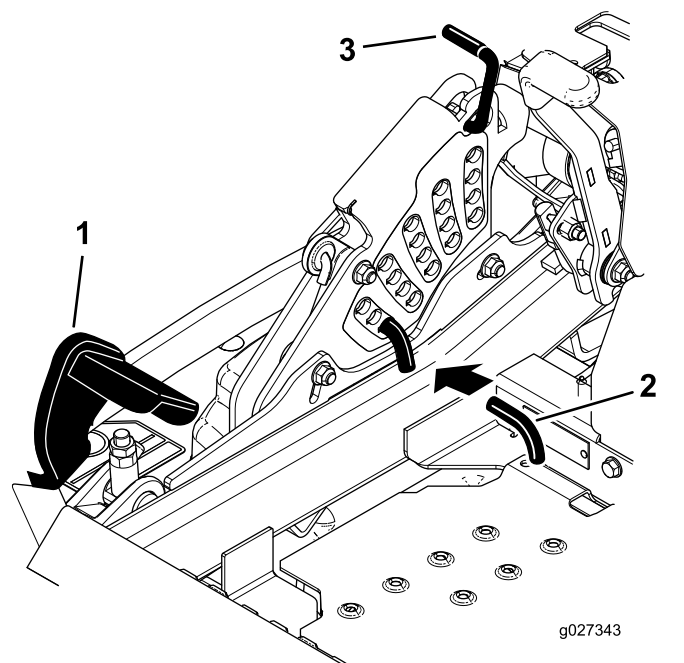

Figure 29
2. Push on the deck-lift pedal with your foot, and raise the mower deck to the transport position (also the 140 mm (5-1/2 inches) cutting height position) as shown in Figure 29.
3. To adjust, rotate the pin 90 degrees and remove the pin from the height-of-cut bracket (Figure 29).
4. Select a hole in the height-of-cut bracket corresponding to the height-of-cut desired, and insert the pin (Figure 29).